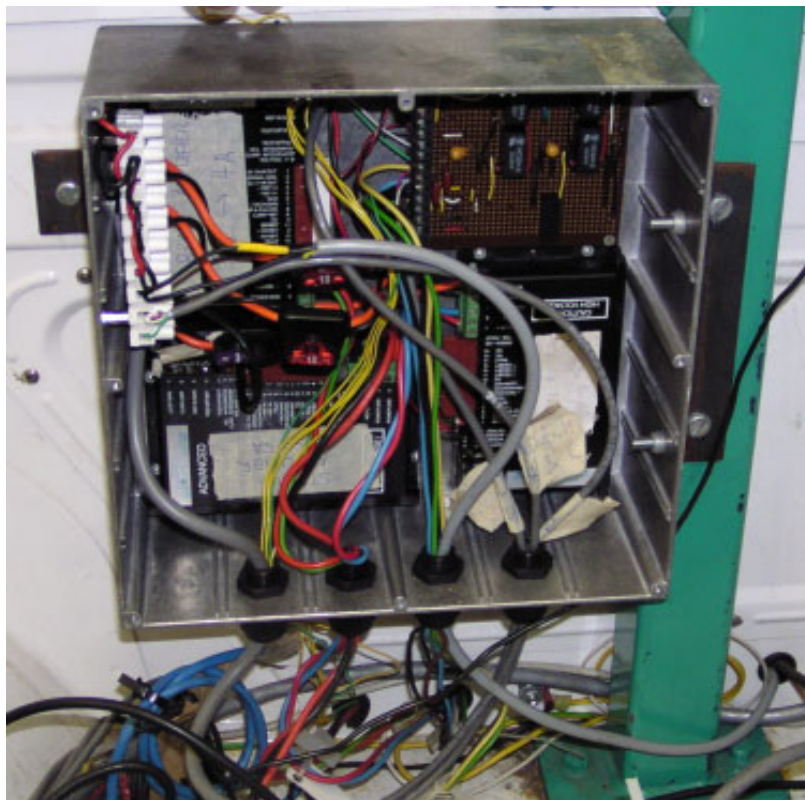
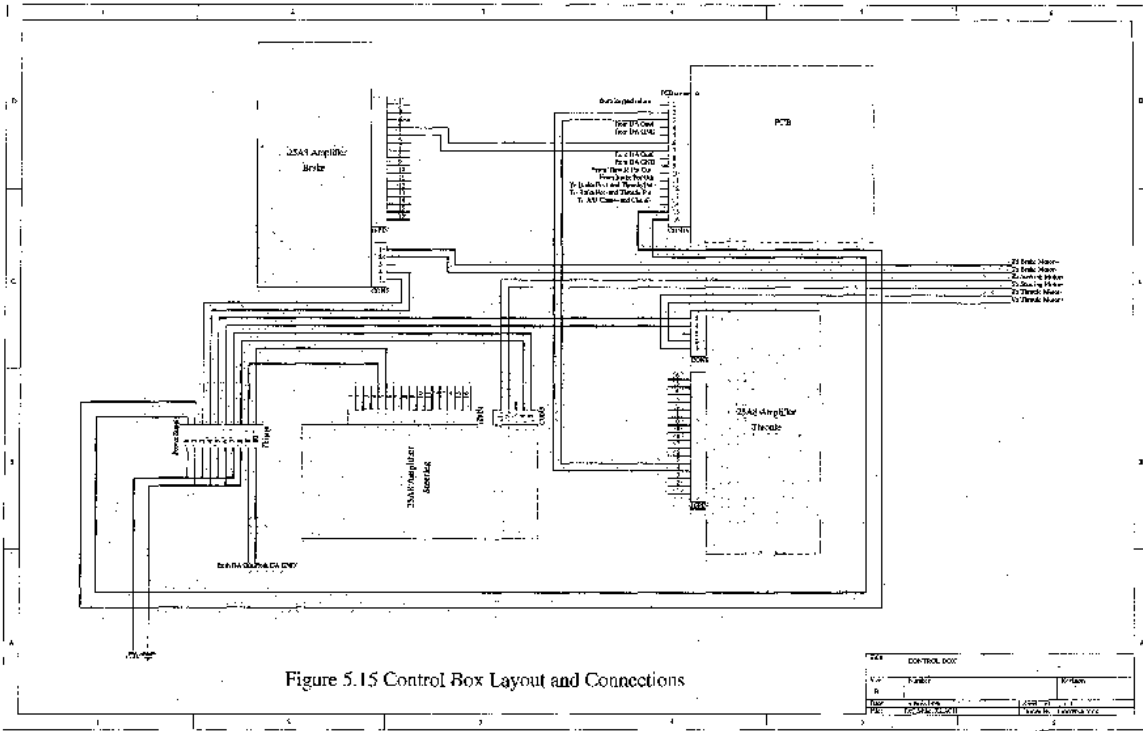

Figure 2.5: Power amplifier box.
Figure 2.6: Schematic of the power amplifier box components and connections.
- 4. and 6. is the analog output control signal going to the steering amplifier in the power amp-box, defining the steer actuator setpoint. Wire 4 (green) is ?? and goes to the pin (9 or 10??) of the white terminal strip in the top-left of the amp-box (see Figure 2.6). Wire 6 (white) is ?? and goes to the pin (9 or 10??) of the white terminal strip in the amp-box.
The power amplifier box is bolted to the front-left-side of the tray, just behind the green roll-bar support (see Figure 2.5). This box contains the power amplifiers for the steering, throttle and brake actuators. It also has a circuit board to implement the throttle and brake manual override systems, and to provide reference voltages for the throttle and brake feedback potentiometers. A schematic of the amplifier box components is shown in Figure 2.6.¹
The physical locations of the various components in the amp box are as follows (see Figure 2.6). At the top-left is a white terminal block. The top 8 pins of this block are alternately 24V and ground, and the bottom two pins are the steer actuator control signals from the data acquisition board in the weatherproof box (see Section 2.6). At the top-left, beneath the white terminal block, is the brake amplifier. At the top-right is the circuit board for the manual override circuit and potentiometer reference voltage circuit (see Figure 2.7). At the bottom-left is the steering amplifier, and at the bottom-right is the throttle amplifier.